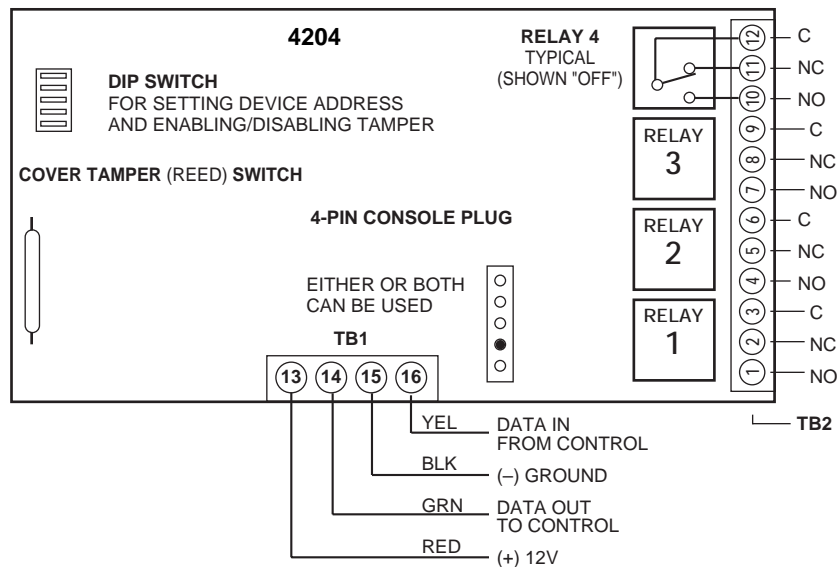

Figure 10.4204 Connections to Control
3. **Connect the desired field wiring to the unit's relay contact terminals.** See Figures 10 and 11.